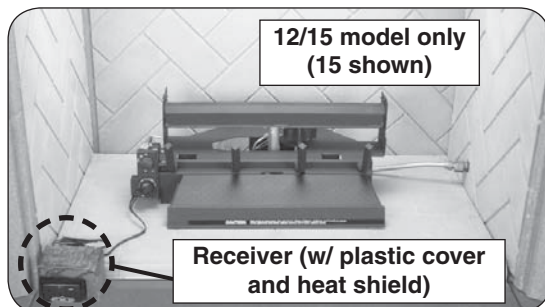

Fig. 20-4 Place remote receiver
3. **Place the remote receiver at the front left corner of the fireplace. Place as far from the burner system as possible.** See Fig. 20-4.
4. Place the plastic cover over the remote receiver with the open side facing forward to allow access to the receiver controls. Then place the decorative heat shield. See Fig. 20-4.